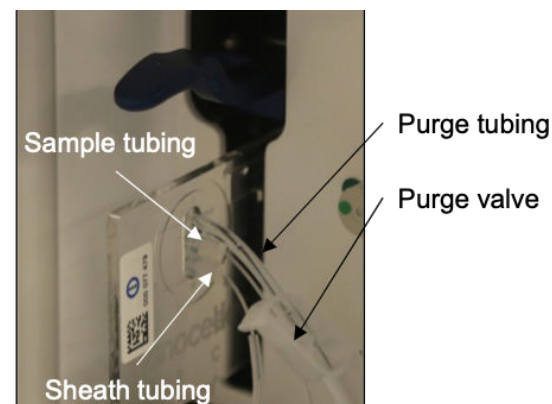

Figure 14. Tubing description.
2. Check tubing connections to cartridge (Fig 14) for loose connections.